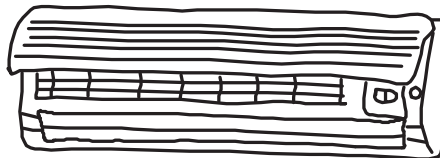

Fig. 4
1. Abra o painel frontal. (Fig. 4)